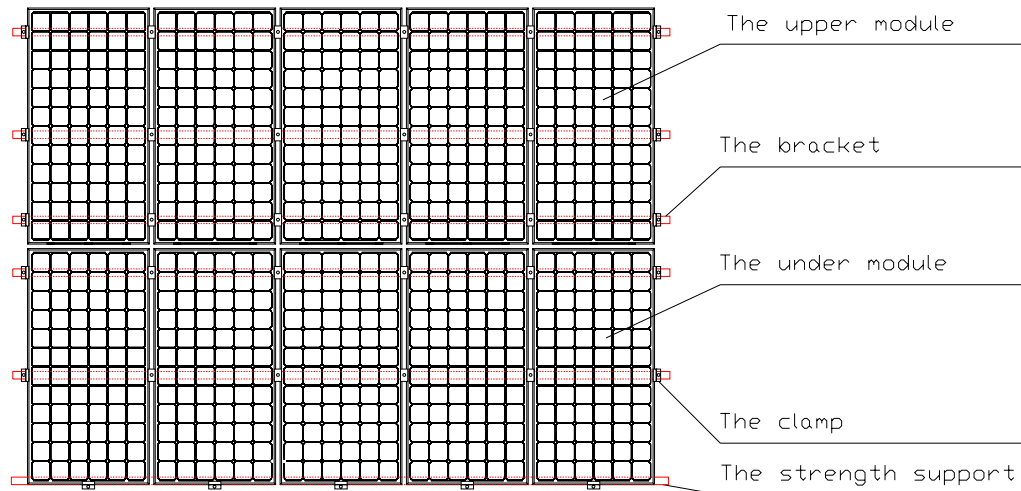

FIG 2 Schematic diagram of reinforcement mounting of module
- For the roof system installed in the area that ever experienced relatively heavy snowfall or snow cover, the customer shall reinforce the mounting system at the lower frame of the module, in order to prevent the lower frame from being pressed and damaged by the falling snow, and avoid the module damage due to melt snow freezing in daytime. CSUN suggests to selecting the support reinforcing mechanism shown in Figure 2.